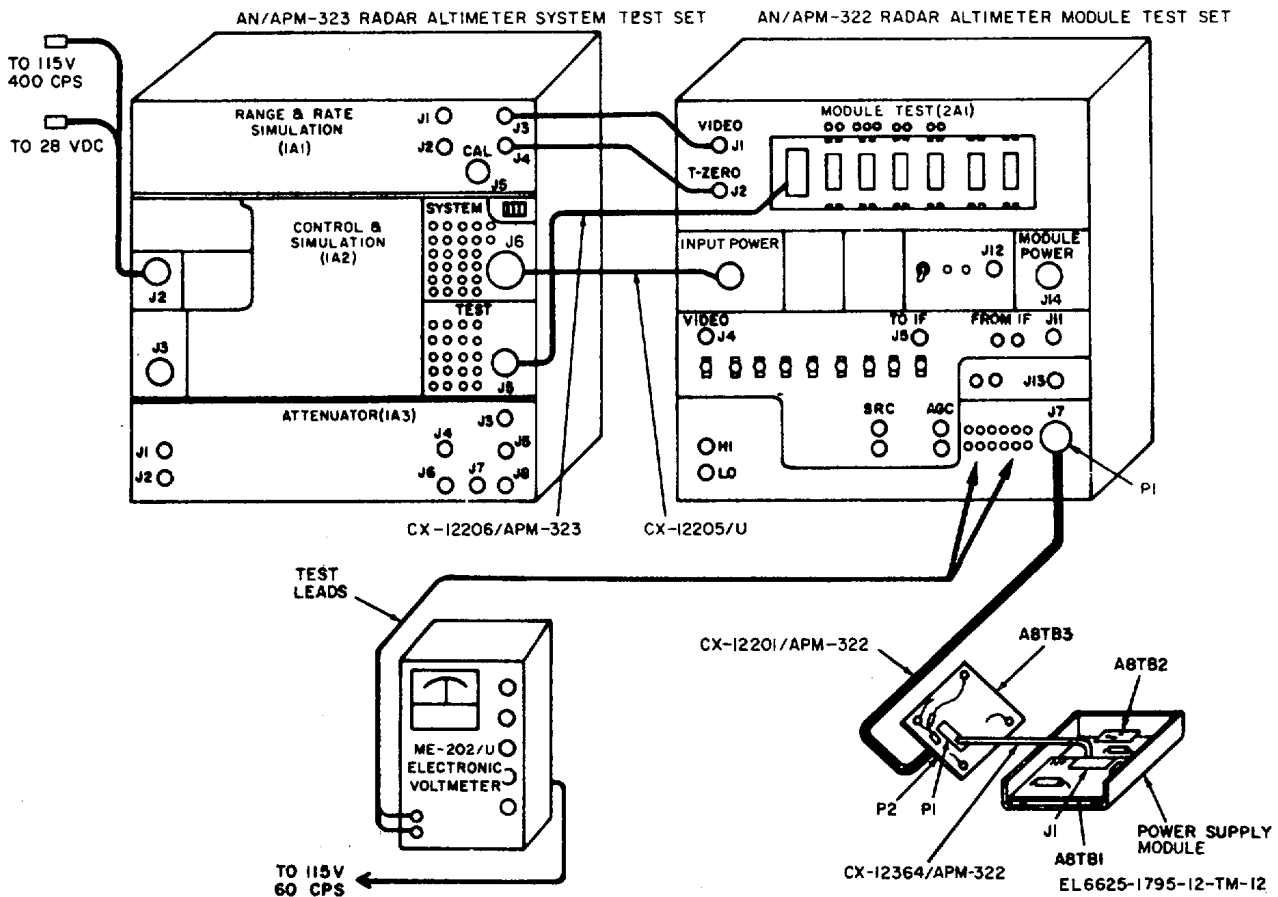

Figure 2-8. Test Set, Radar Altimeter Module AN/APM-322, power supply module test setup.
(1) Disassemble the power supply and remove printed circuit card A8TB3. Interconnect the power supply and printed circuit card A8TB3 according to figure 2-8.
(2) Use the ME-202/V to measure power supply outputs at the POWER SUPPLY MODULE tip jacks. Use Multimeter AN/USM-223 to monitor the input voltage at the 400 CPS HI and LO jacks. Adjust the VOLTAGE SELECT switch to the low, normal, and high input settings specified in the power supply test procedures.